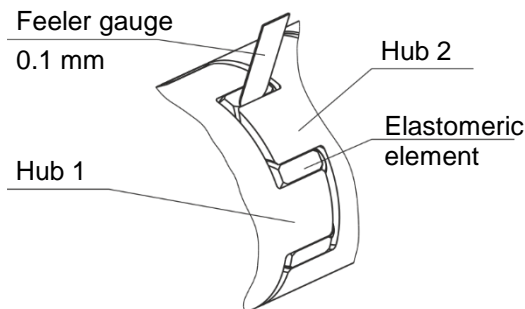

Fig. 22
No abraded particles are allowed on the elastomeric element (20), as the ROBA[®]-ES is a backlash-free coupling. The gap between two claws must be filled with the elastomer, with no room for backlash. You should not be able to insert a feeler gauge with a thickness of 0.1 mm (Fig. 22).